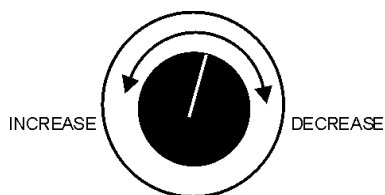

**Figure 33. Frequency Meter (Hz)**
13. The generator's frequency meter (Figure 33) displays the 60 cycle output frequency in **HERTZ**.